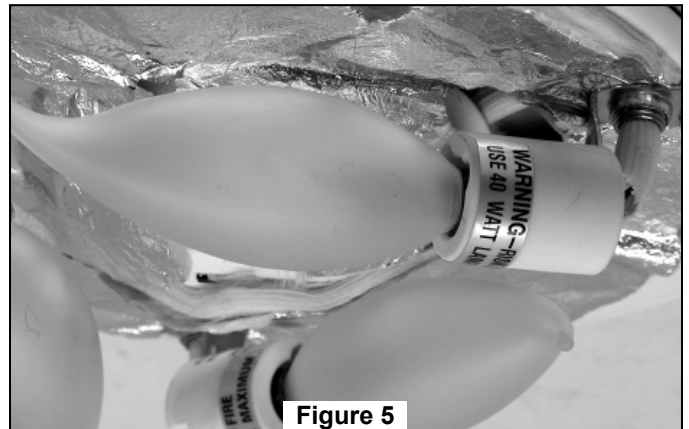

Figure 5
9. Assemble Upper Housing cover and fasten to Downrod Support with three screws (with spring washers) provided. (Figure 5)
11. Reinstall the Hanger Ball (Figure 5) on the Downrod as follows. Route the three 80" wires through the Hanger Ball. Position the Pin through the two holes in the Downrod and align the Hanger Ball so the Pin is captured in the groove in the top of the Hanger Ball. Pull the Hanger Ball up tight against the pin. **Securely tighten the setscrew in the Hanger Ball. A loose setscrew could create fan wobble.**
5. Install three Candelabra Bulbs (not included - 40 watts max) in each of the sockets on the Downlight Socket Plate Assembly. (Figure 5)